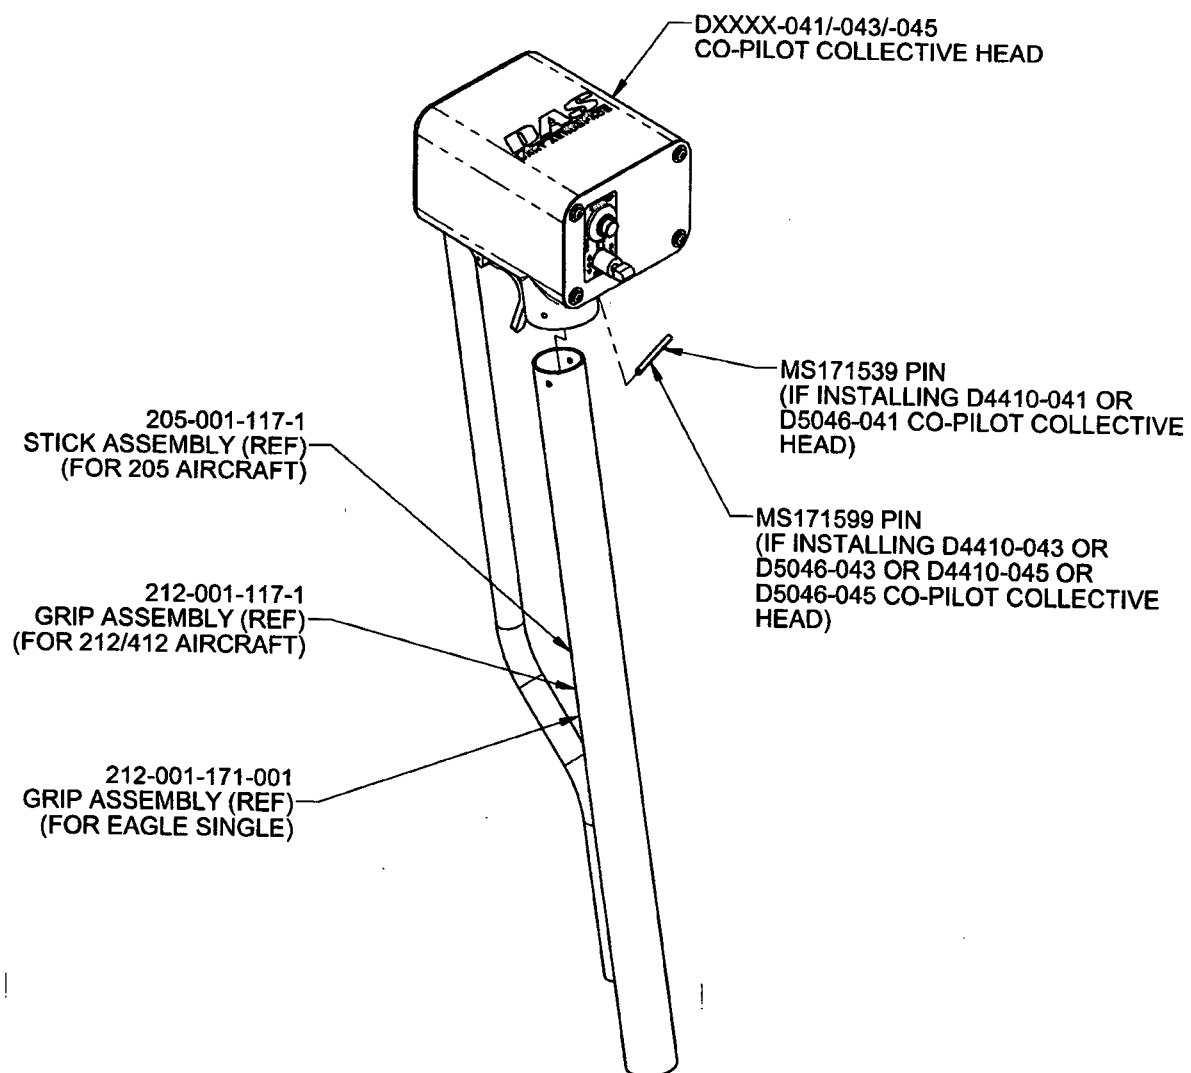

FIGURE 1 - Co-Pilot Collective Head Installation
2.3 Wet the Collective Head Assembly with Proseal 890 or equivalent and mount using Pin (p/n MS171539 on DXXXX-041 Collective Head or p/n MS171599 on DXXXX-043/-045 Collective Head) per Figure 1. Apply Aircraft Primer to Pin.